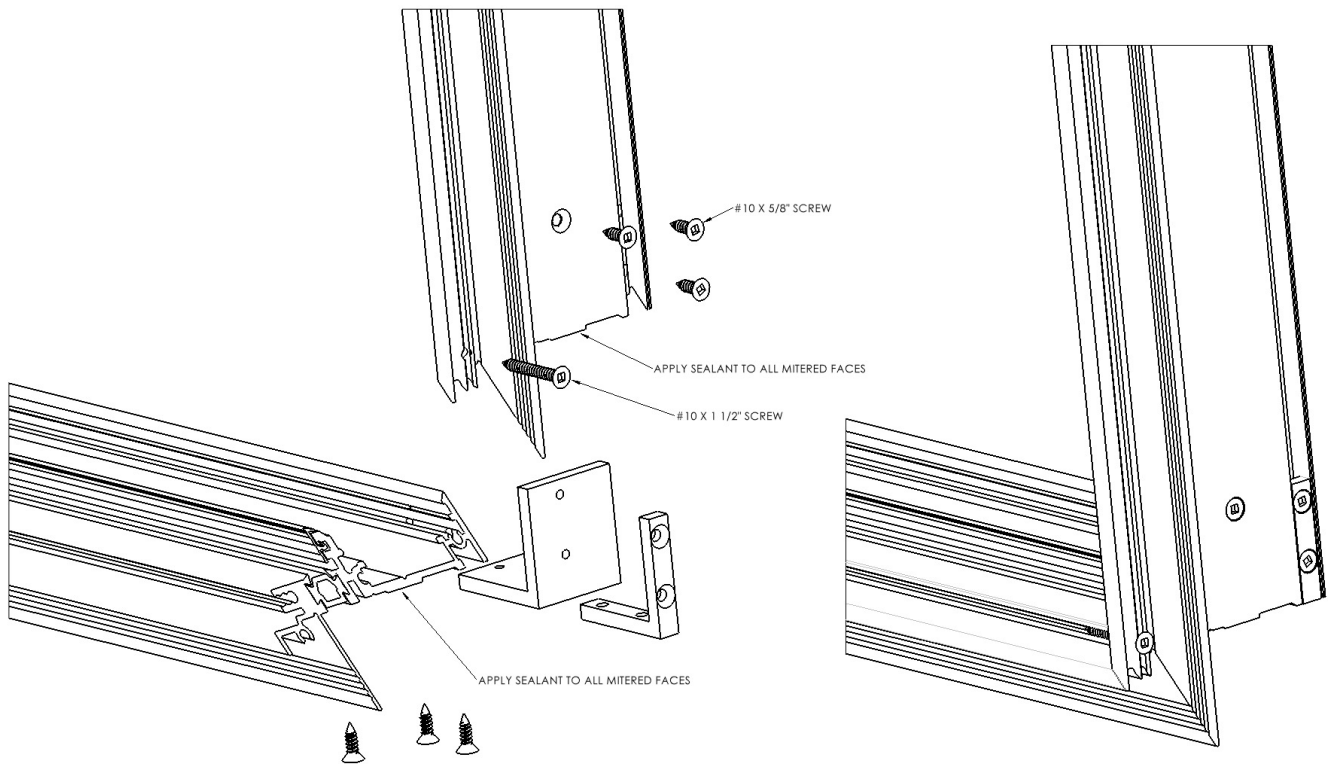

Figure 15
- Assemble the corners of the perimeter frame using the two keys and #10 x 5/8" screws. Apply a generous coat of Dow 795 sealant or equivalent to each mitred face. For perimeter frames with a nail fin, an additional screw will be used on the outer corner. (See Figure 15)